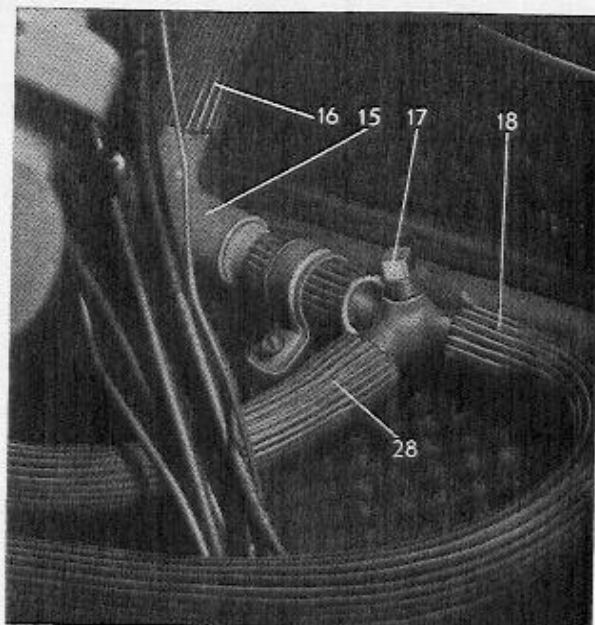

Fig. 15.
7. Lead a hose (18, Fig. 14) in as few curves as possible from the brake valve to a point high up on the mounting plate where a T-joint (17, Fig. 15), with a plug and valve (15), is fitted. The valve should be fitted so that its greatest movement is horizontal. See also Fig. 14.
8. Lead a hose (28, Fig. 15) from the T-joint (17) along the mounting panel and side wall to the floor and then to the brake servo cylinder (29) where it is connected as shown in Fig. 2.
10. From the central connector of the valve, a hose (16) is lead as shown in Fig. 14 and Fig. 15 to the right hand side of the car and over the floor to the clutch disengagement servo cylinder where it is connected as shown in Fig. 2.